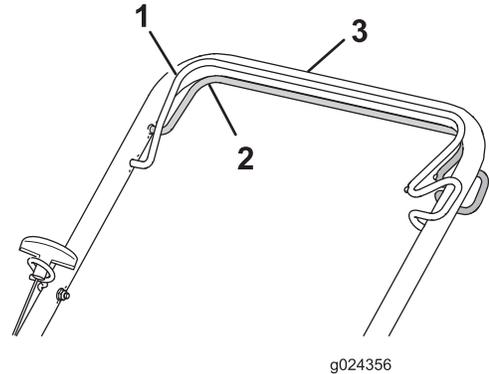

Figure 16
- **To engage the self-propel-drive:** Squeeze the self-propel-drive bar against the handle and hold it (Figure 16).